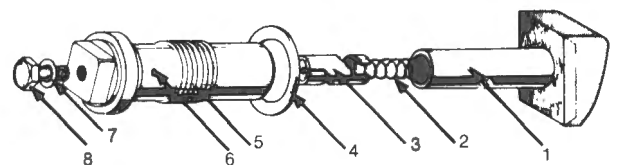

Fig. E-24
- 5 Remove the set screw (8) Fig. E-24 and release the plunger by turning the key anti-clockwise.